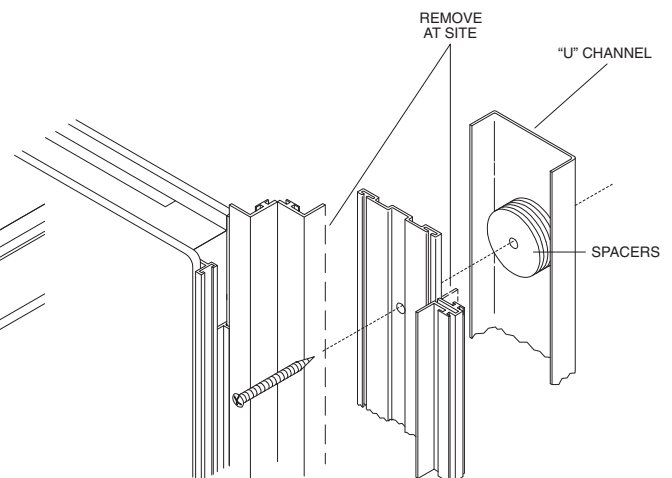

FIG. 2
5. Stick the proper amount of $\frac{1}{8}$ " cork spacers to the "U-channel" at each hole (Figure 2) to fill any difference between the level and the "U" channel.
7. The panel is now ready for attachment to the wall mount extrusion. This utilizes the same hinge connector attachment which joins all other panels (Figure 2). (You may trim off the light block portion of the hinge on the wall mount side to facilitate installation, if necessary.)